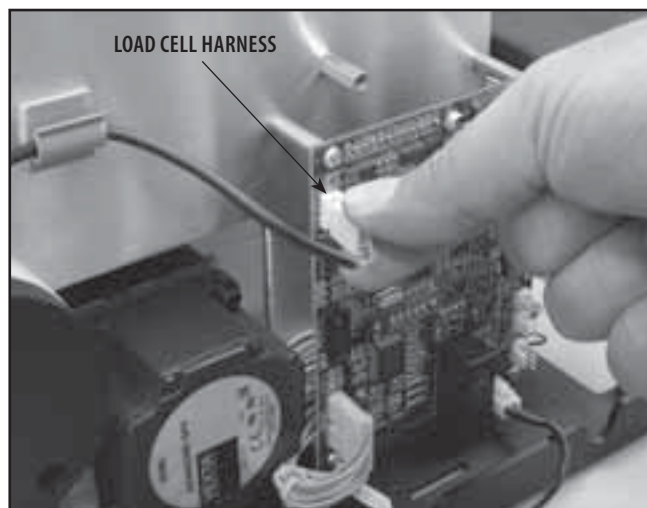

FIGURE 6.21
5. Disconnect the Load Cell Harness from the Motor Control Board. See Figure 6.21.